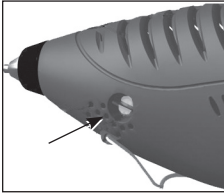

Figure 5
3. The Ignition Indicator will glow red indicating the gun is heating (Figure 5). Once the gun has reached maximum temperature, the indicator will cycle on and off as the gun heats under thermostat control.